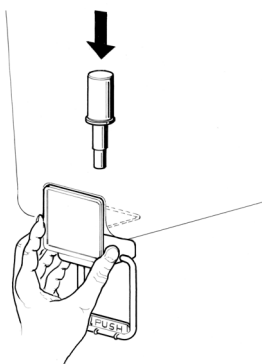

figure 6
3. Gravity faucet: install the faucet handle and the piston with its gasket (see figure 6).